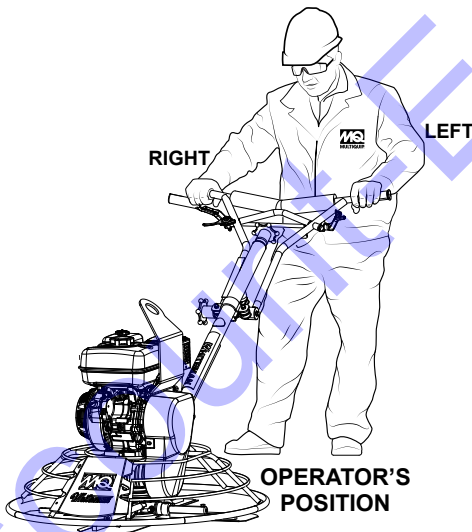

Figure 1. Operator's Position
4. Stand in the operator's position (Figure 1) behind the trowel and grasp both hand grips securely.